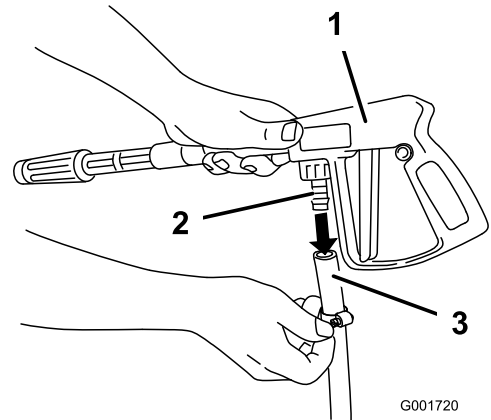

Figure 35
4. Connect the end of the hose to the fitting on the spray gun (Figure 35), and secure the hose end with the small clamp.